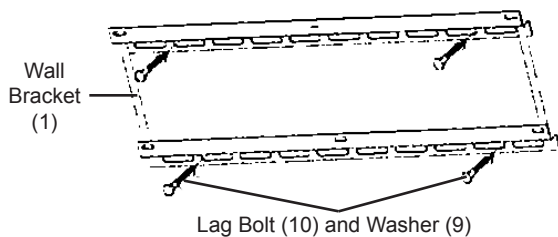

Figure 1
3. Use Lag Bolts (10) and Washers (9) to mount Wall Bracket to wall. See Figure 1, below.